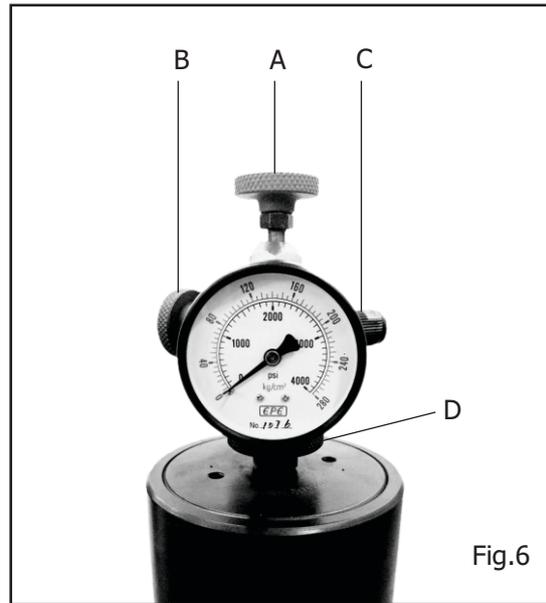
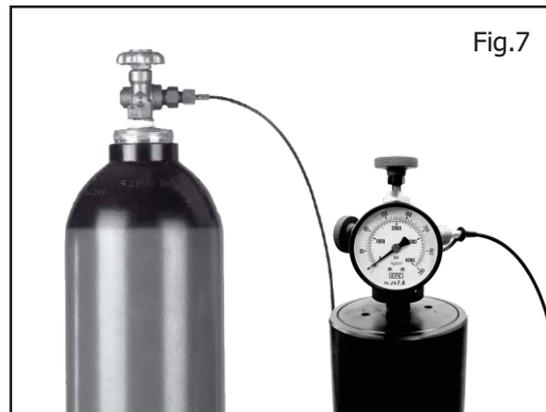

Fig.6
Fig.7
Pre-Loading & Checking Set type-PC (refer Fig.6) is to be used for checking / charging of piston accumulators. When charging, the nitrogen bottles must be capable of delivering pressure higher than the desired accumulator gas pressure.
- Prior to the mounting PC/ - equipment ensure that the valve A is unscrewed, that bleed valve B is closed and that non-return valve C is screwed tight. (refer Fig.6)
- Fit the connection to nitrogen cylinder. (refer Fig.6 & Fig.7)